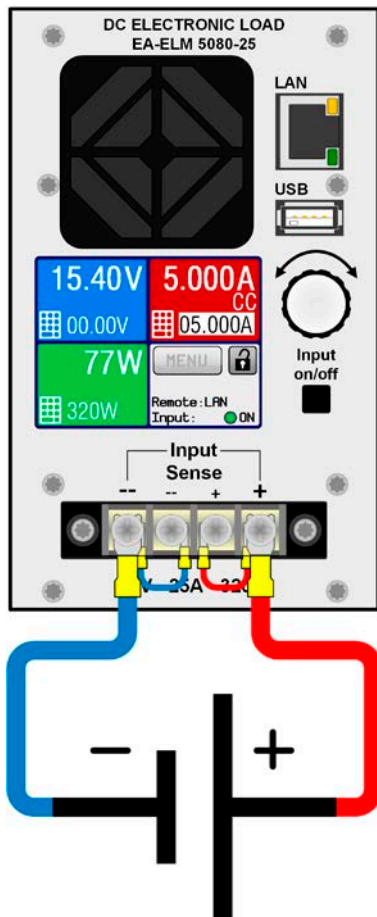
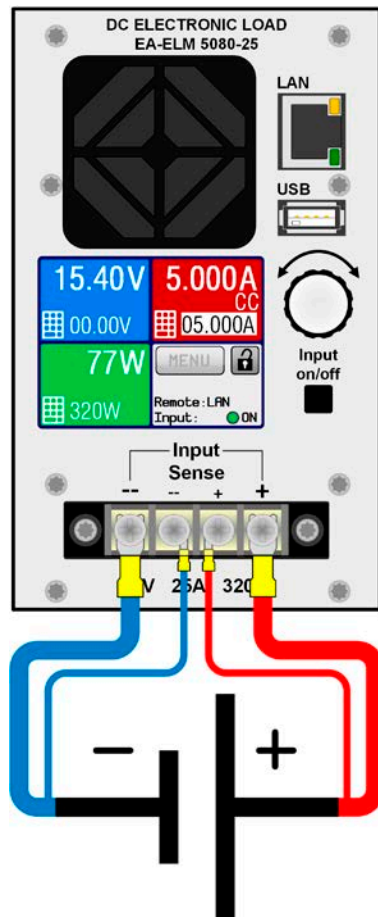

Figure 9 - DC wiring example without remote sense (bridged)
Figure 10 - DC wiring example with remote sense connected to source
- Sensing cables must be connected Sense+ to + and Sense- to - at the source, otherwise the sense input of the electronic load can be damaged. For an example see *Figure 10*.
For both situations see the wiring examples in *Figure 9* and *Figure 10*.